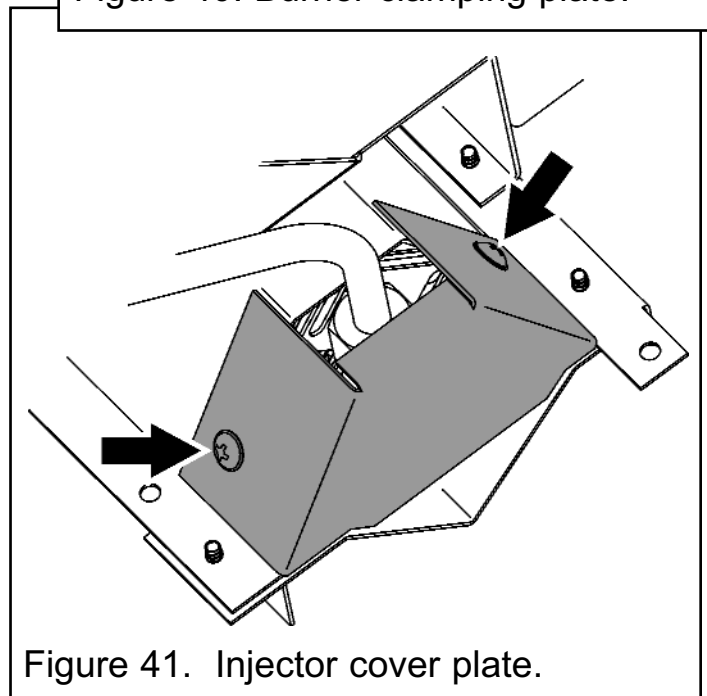

Figure 41. Injector cover plate.
3. Unscrew and remove the injector cover plate from underneath the burner (See figure 41).